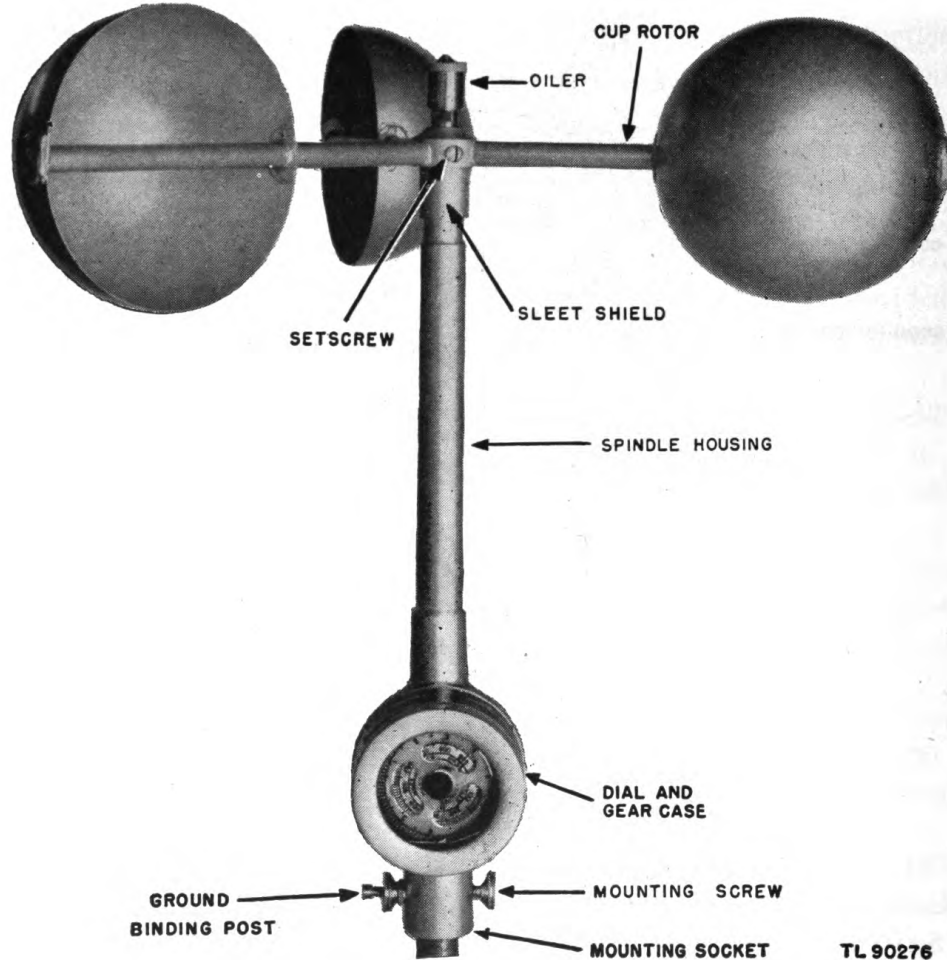

Figure 3. Anemometer ML-80 or ML-80-B.
5. ANEMOMETERS ML-80 AND ML-80-B (fig. 3). a. Components.